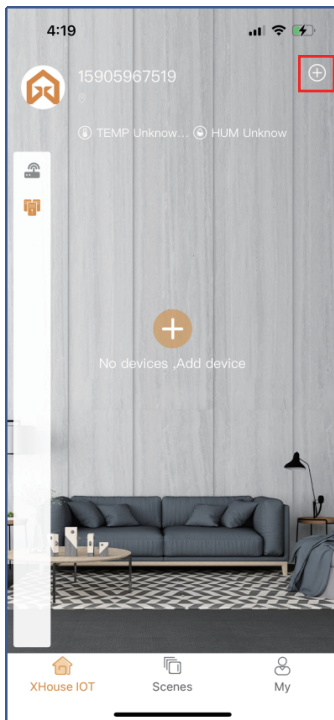

Fig 1
Step 1. Power on the device, open the APP. Press the “⊕” on the top right corner to add the device, then select the “ Sliding Gate ” which has a orange circle on the top right corner. (Fig 1 and 2)